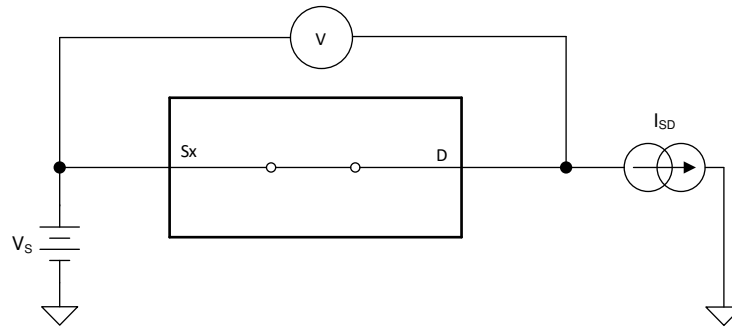

Figure 8-1. On-Resistance Measurement Setup
The on-resistance of a device is the ohmic resistance between the source (Sx) and drain (D) pins of the device. The on-resistance varies with input voltage and supply voltage. The symbol  $R_{ON}$  is used to denote on-resistance. The measurement setup used to measure  $R_{ON}$  is shown below. Voltage (V) and current ( $I_{SD}$ ) are measured using this setup, and  $R_{ON}$  is computed as shown in Figure 8-1 with  $R_{ON} = V / I_{SD}$ :